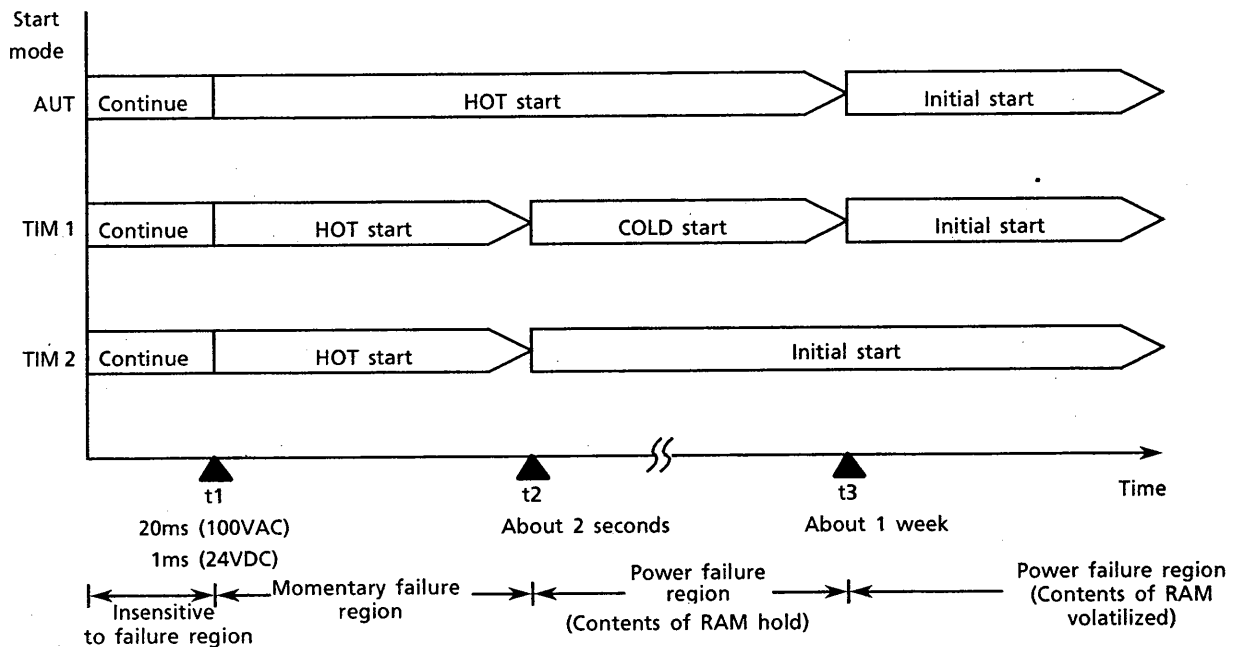

Figure 6.3.1 Power Failure and Start Mode
Figure 6.3.1 shows the relationship between power failure and the start mode, and Table 6.3.1 shows the operation for startup.
YS150 and YS170 use RAM and EEPROM (Electrically Erasable and Programmable Read Only Memory) to store parameters and user programs (for YS170 only). The information that has been written into the EEPROM will not become lost unless an abnormal condition occurs. User programs, parameters for function settings, and the setpoint values (SV) that are used as the initial value during start-up (as shown in Fig. 6.3.1) and the tuning parameters for PID is stored in EEPROM.